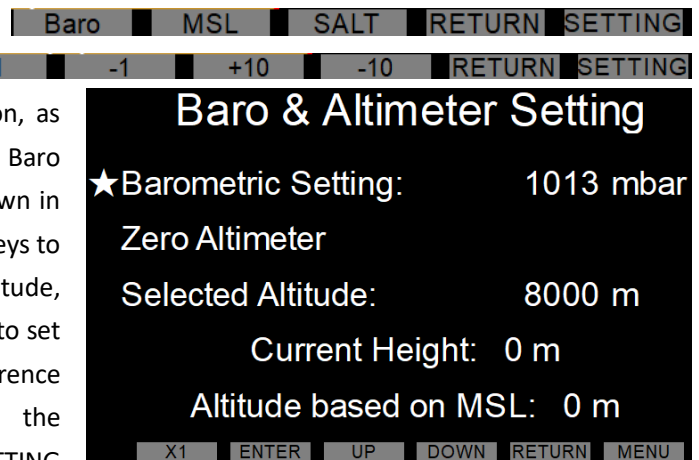

Fig. 5 Select setting item
1) Press **ALT SET** button to pop up the barometric and altimeter setting button's function, as shown in the upper picture of Figure 5. press the Baro and SALT keys to pop up the number keys, as shown in the middle picture of Figure 5, press the number keys to adjust the field barometric and the selected altitude, long press to quickly adjust. Press the MSL button to set the mean sea level barometric as the reference barometric, and the back ground color of the barometric box will turn blue 1013 mb. Press the SETTING button to enter Baro & Altimeter Setting interface.
shown in the bottom picture in Fig 5. At Baro and Altimeter Setting submenu, select Barometric Setting to set the local barometric, or select Zero Altimeter to set the current barometric sensed by the integrated display as the local barometric pressure, or select Selected Altitude to adjust the selected altitude.